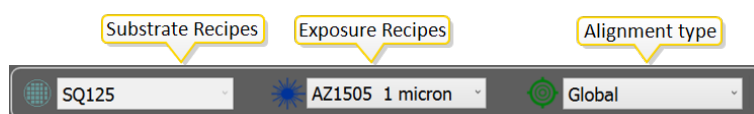

Figure 3-115 Quick selection bar
1. Select alignment type **Global** in the quick selection bar, see **Figure 3-115** below.